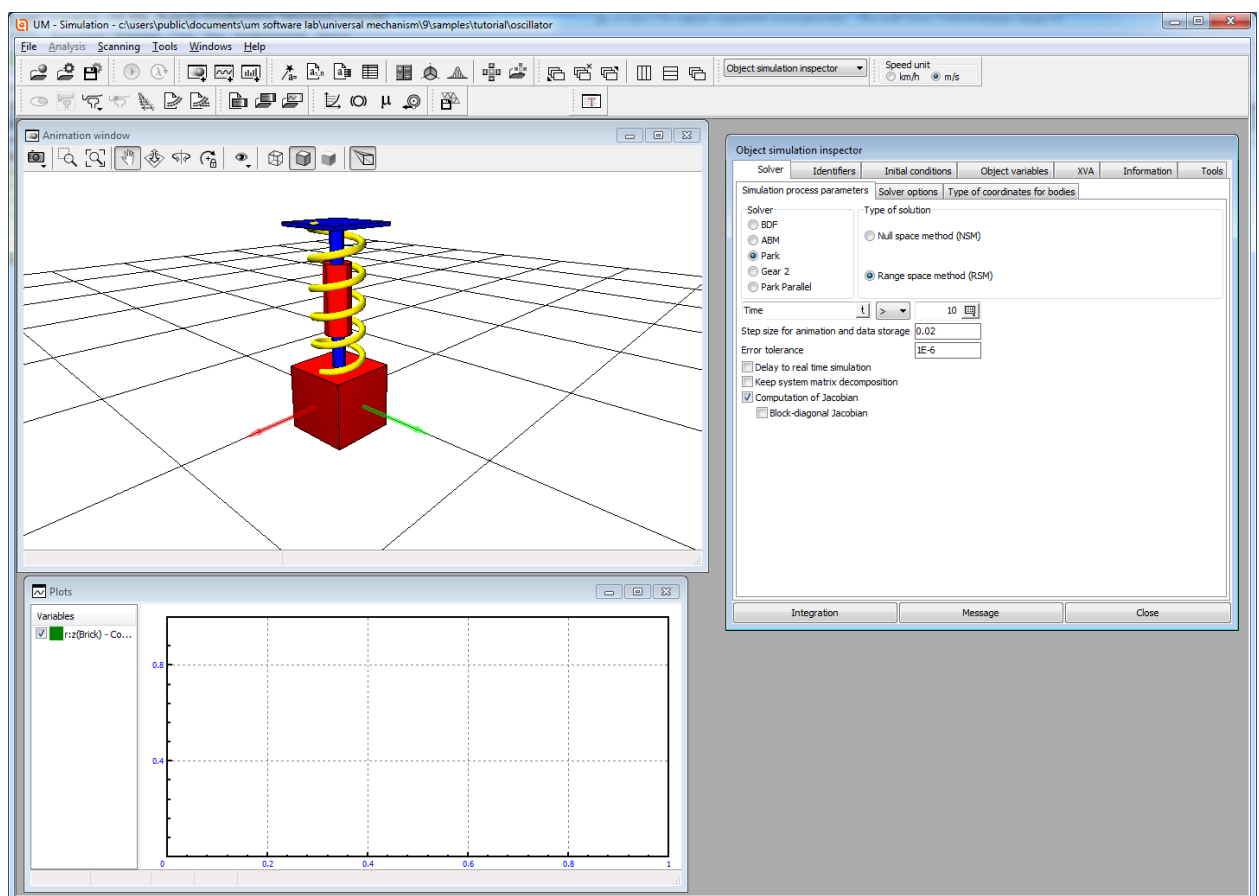

Figure 2.18. Desktop of the simulation program
6. Arrange windows on the desktop as you prefer, for example, as it is shown in the Figure 2.18.